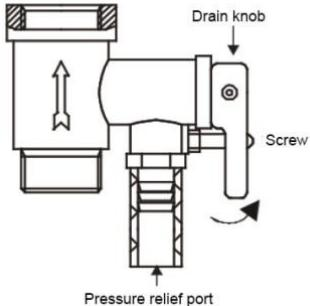

Рисунок 6
6. To drain the internal tank, use the safety relief valve: unscrew the screw of drain knob on the safety relief valve and move the drain knob to the up position — the hot water outlet tap must be open and the cold water inlet tap must be closed (see Fig. 6). Water will start flowing from the pressure relief port of the safety relief valve.